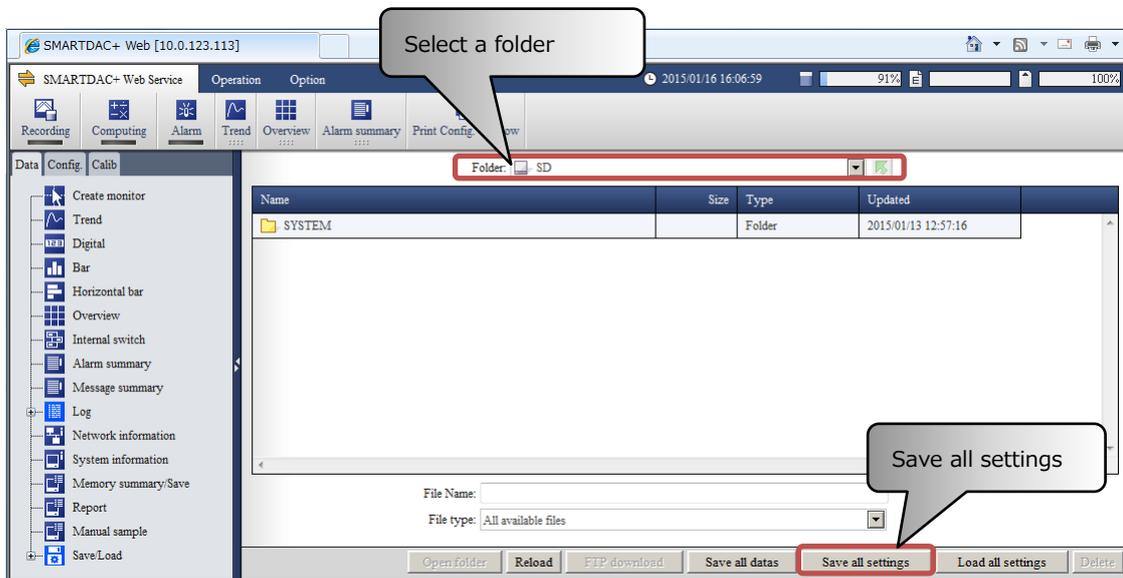

Figure 4: Save/load screen (2)
- 4.3 Using the contents selection tool, click Data > Save/Load > File List to open the save/load screen (see figure 4).